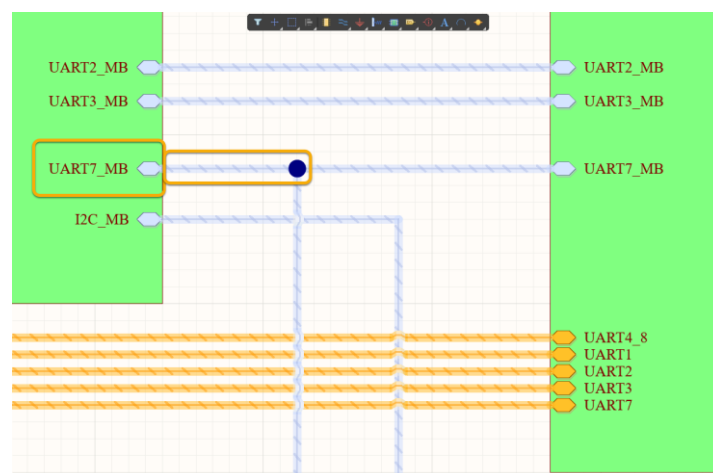

Figure 22. Final definition for Harness UART7_MB Top Sheet
56. Like in the previous step, let's make another Signal Harness connection between the `2_mb_conn.SchDoc` and `6_uart_esc_i2c.SchDoc` sheet symbols, as seen in Figure 22.
- a) With the Signal Harness command still on your cursor, left-click on the corner of the `UART7_MB` Signal Harness you just created, as shown in Figure 22.
- b) Complete the connection to the edge of the `2_mb_conn.SchDoc` Sheet Symbol and the `UART7_MB` Sheet Entry will be automatically generated, as shown in Figure 22.